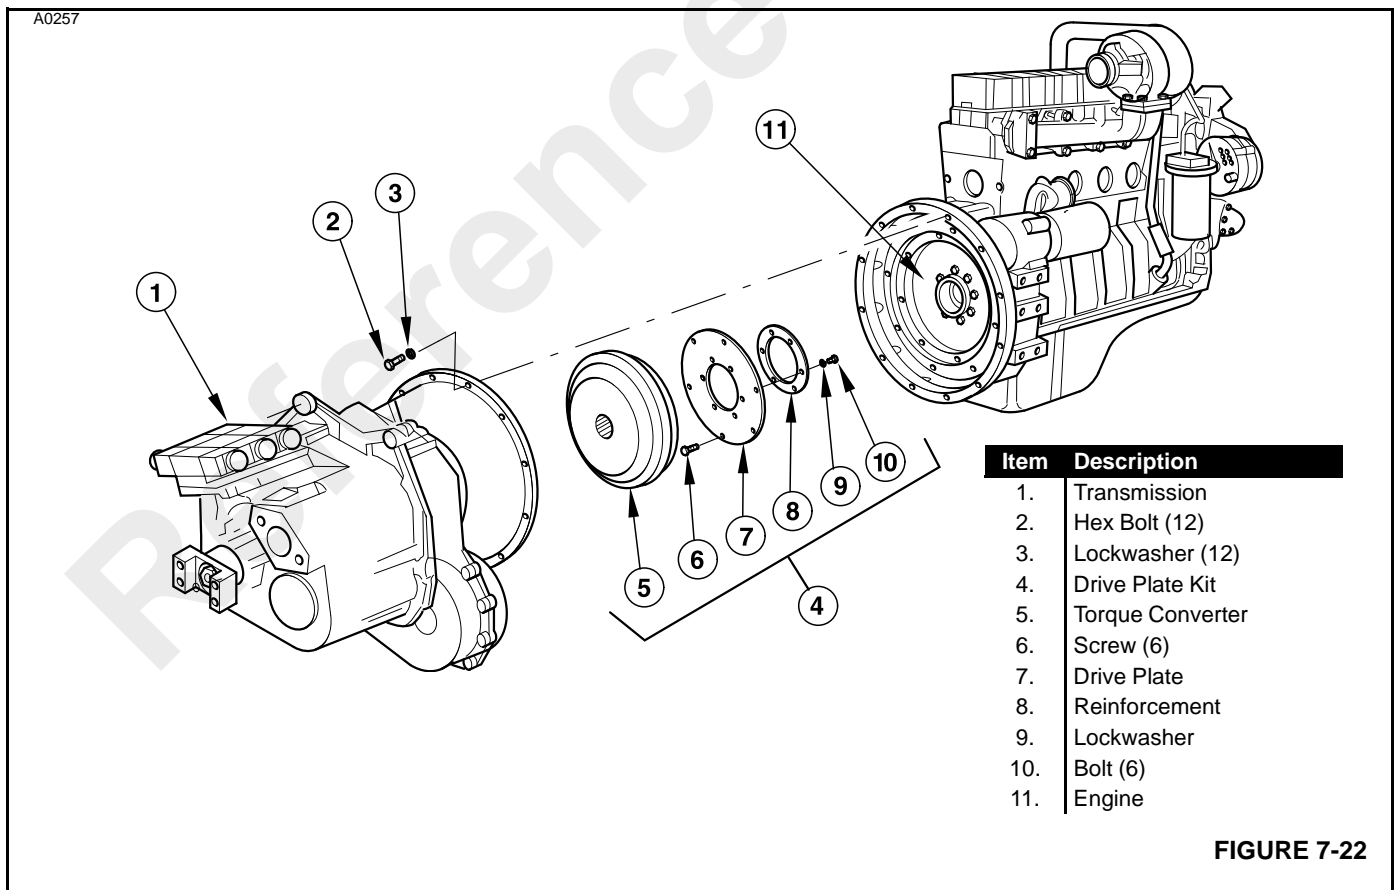

FIGURE 7-22
3. Using an overhead crane and chains to support the weight of the transmission, remove the twelve capscrews (2, Figure 7-22) and lockwashers (3) securing the transmission to the engine flywheel housing.